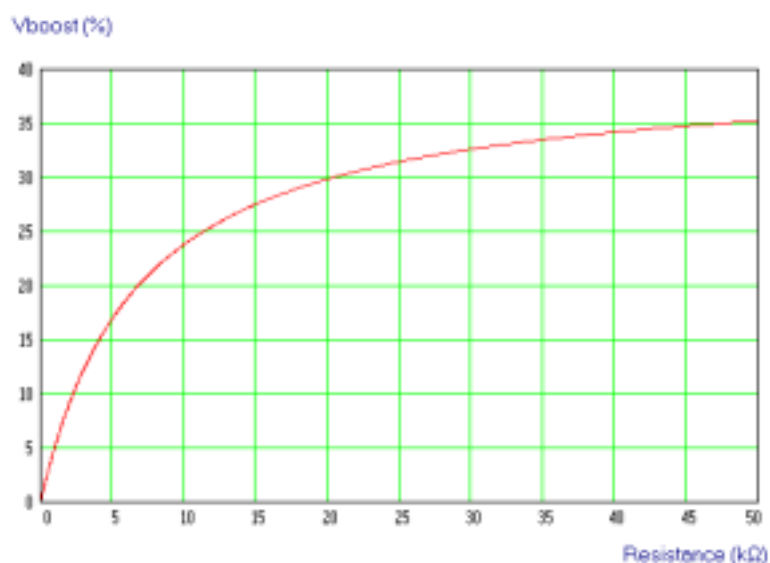

Figure 1-8. Voltage Boost vs. Resistance
- Adjust the VOLTAGE BOOST trim pot, R4, to the required resistance for the desired percent voltage boost (see Figure 1-8). For example, set the voltage boost to 20 percent, which will be approximately 6800 Ω .